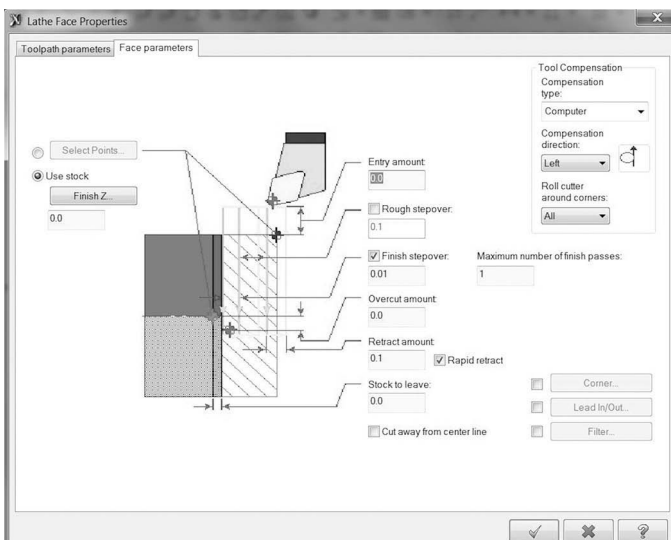

Figure 5-65 Lathe Face Parameters
- In the Face parameters tab press the Finish Z ... change the value in the field to 0.0 (Figure 5-65) and Press OK.